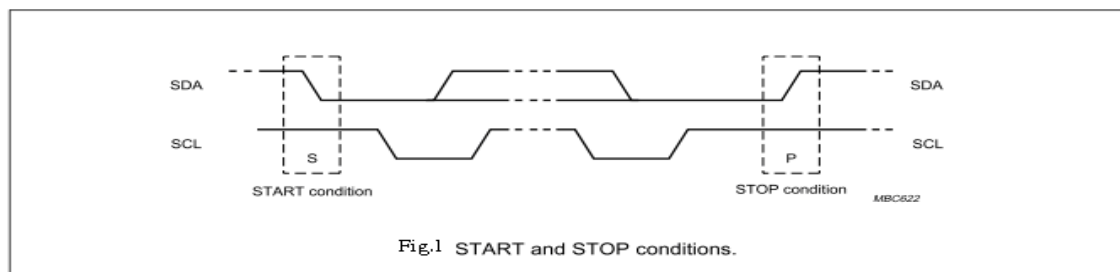

Fig.1 START and STOP conditions.
8.2.1. START and STOP conditions (See fig.1)